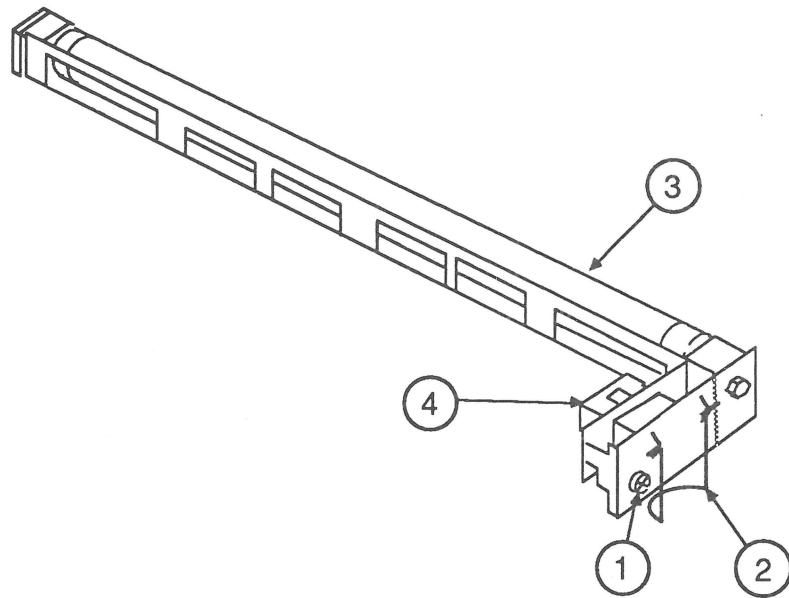

FIGURE 3
2. Remove the light assembly by first unscrewing the Phillips screw (Figure 3, #1). This screw does not come out, but it has to be completely loose.
3. Raise the wire hook (Figure 3, #2) on the right side of the optical block to a horizontal position and then pull it straight out. The light assembly (Figure 3, #3) will disengage from the electrical connector (Figure 3, #4) and will slide out.